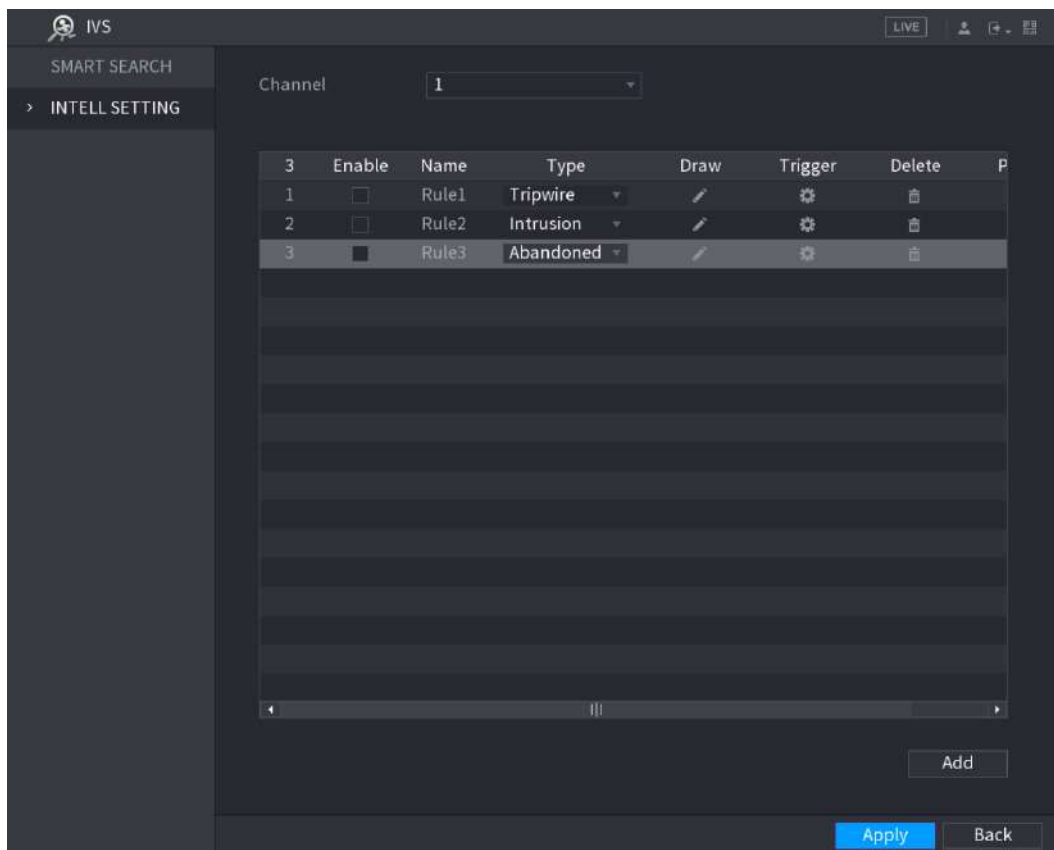

Figure 5-142
Step 1 On the rule line that you added, in the **Type** list, select **Abandoned**. See Figure 5-142.